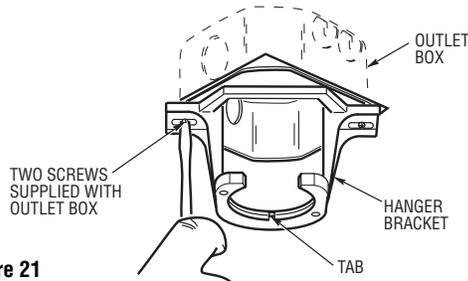
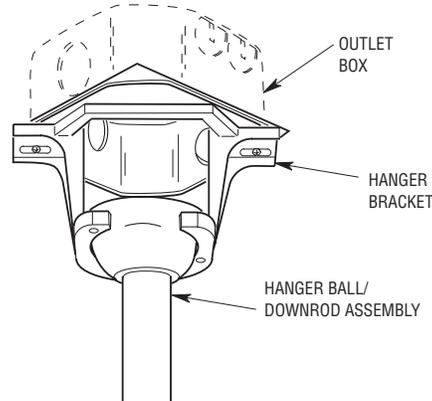

Figure 21
Figure 22
- 1. Securely attach the hanger bracket to the outlet box using the two screws supplied with the outlet box. (Figure 21.)
- 2. Carefully lift the fan and seat the hanger ball/downrod assembly on the hanger bracket that was just attached to the outlet box (Figure 22). Be sure the groove in the ball is lined up with tab on the hanger bracket (Figure 21).